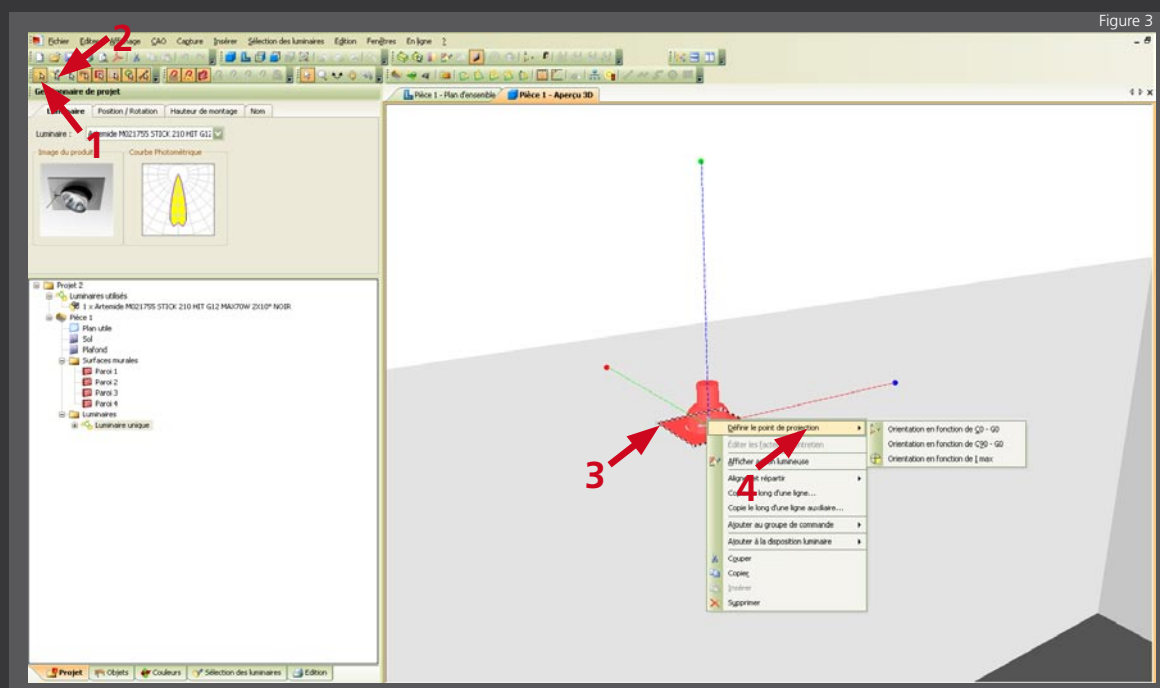

Figure 3
- On the toolbar, deselect the first icon (function «Allow/restrict luminaire arrangement selection») (Figure 3-mark 1);
- On the toolbar, select the second icon (function «Permit/prohibit selection of rotatable luminaire parts») (Figure 3-mark 2);
- Set the rotatable part (Figure 3-mark 3), set the illumination point (Figure 3-mark 4) or adjust the rotation angle (Figure 3-mark 5).